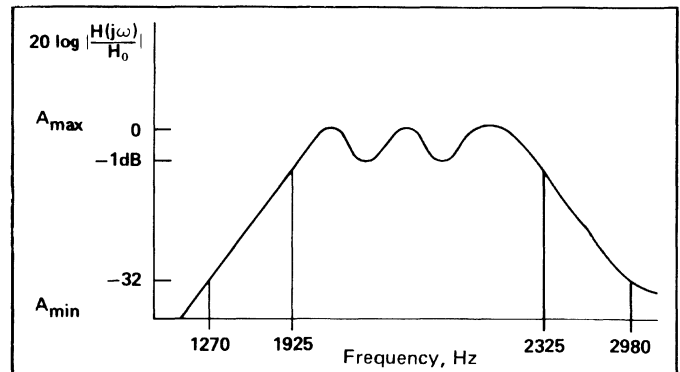

FIGURE 7
-42 dBm for the desired signal and -16 dBm from the local oscillator.) This means that in a worst case situation, the input level of the received signal is -42 dBm with the level of the local oscillator 26 dB above this. For the XR-2211 to operate with a low bit error rate, the input should be 6 dB higher than the interfering signal. This implies that the stopband  $A_{min}$  from Figure 2 is 32 dB. The XR-2211 has an internal preamplifier with a dynamic range of greater than 60 dB, and requires a minimum input level of -38 dBm to cause limiting. If we choose a filter to have a passband ripple of 1 dB and an overall gain of 5 dB, the input conditions of the XR-2211 will be satisfied. The filters introduce a phase shift that is only linear for approximately 1/2 to 1/3 of the passband, therefore, a bandwidth of 400 Hz is used for the filter. The general shape of the filter is shown in Figure 7.